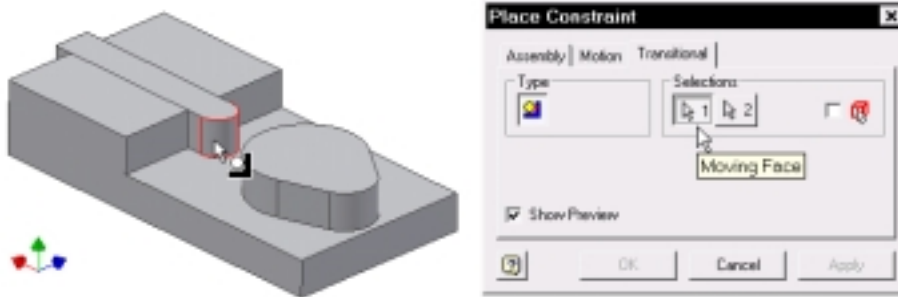

Figure 3–28
9. In the Drive Constraint dialog box, set the End Angle to 360 and select the Forward button. (See Figure 3–30.)